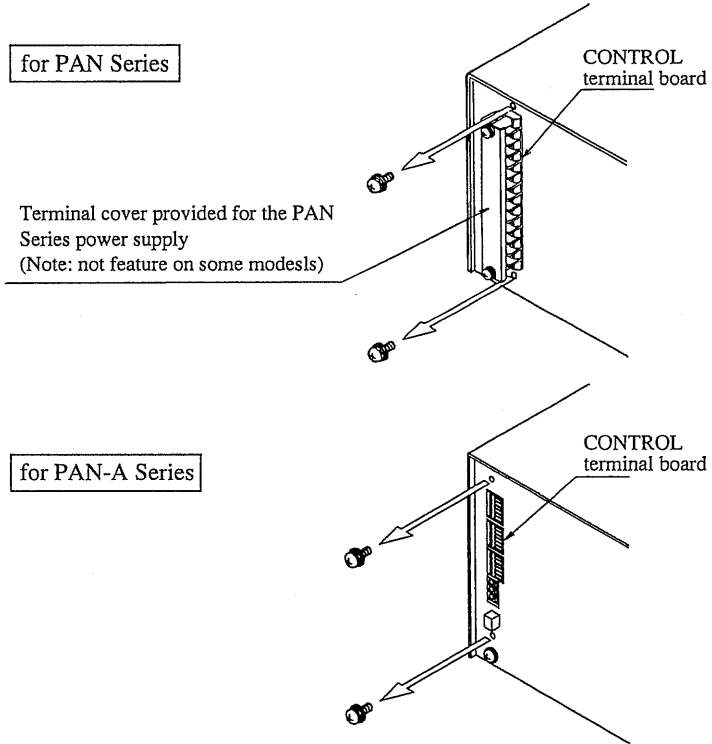

Fig. 1-8
- ② Remove screws from the upper and lower parts of the CONTROL terminal board as shown in Fig. 1-8.